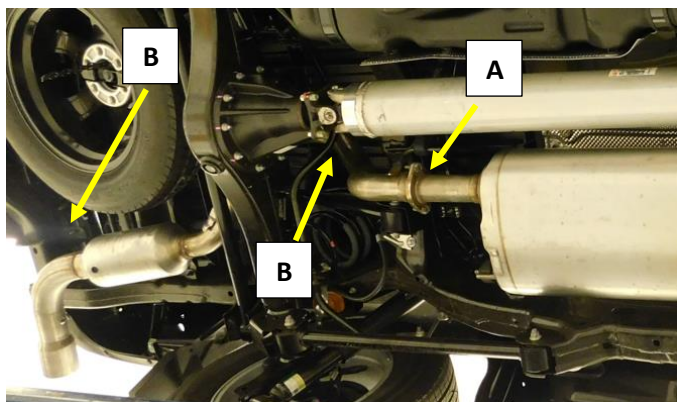

Figure.1
4. Remove the (2x) 14mm nuts from the tail pipe flange connection **(A)** just after the OEM muffler. Remove the Rubber hanger isolators **(B)** from the hanger rods and remove the OEM tail pipe. **Fig.1**